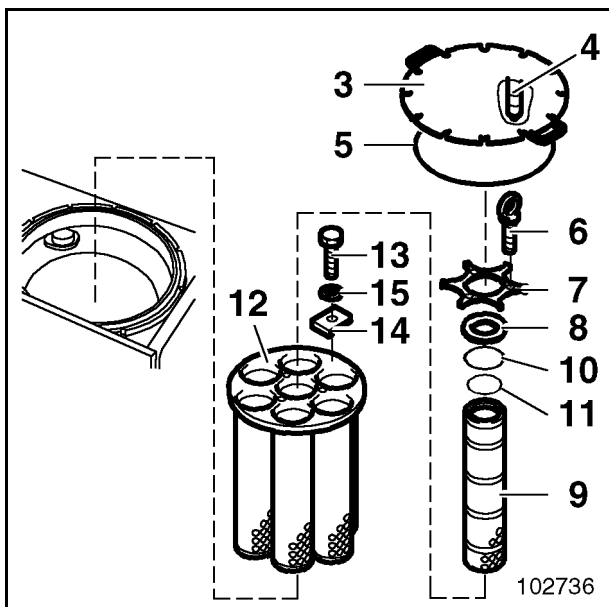

Fig. 3-42:
- Loosen screws (13, Fig. 3-42:) and take off spring clip (14) and disk (15).
- Remove basket (12) and clean in paraffin oil.
- Install basket (12).
- Insert filter element (9) together with sealing ring (11) and cap (8) with sealing ring (10).
- Refit cover (3).